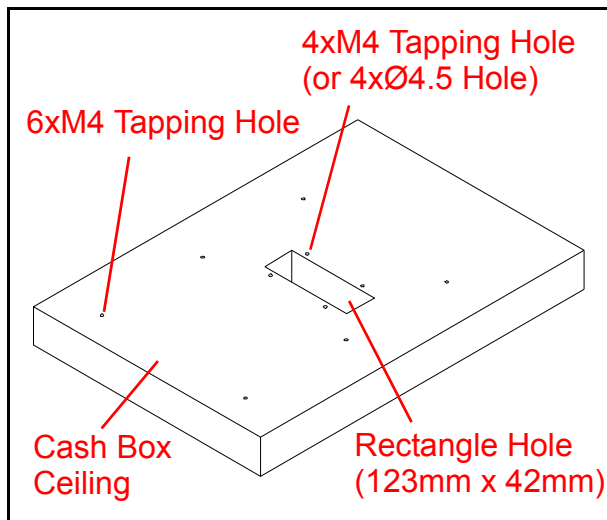

Figure 5 Set Up Holes
To prepare the RDM-100 to Cash Box mounting platform, six (6) holes are required to attached the Rail Brackets, four (4) holes to install the Cash Box Transport Guide Frame and a 123x42mm rectangle cutout for placing the Cash Box Transport Assembly (Figure 5).